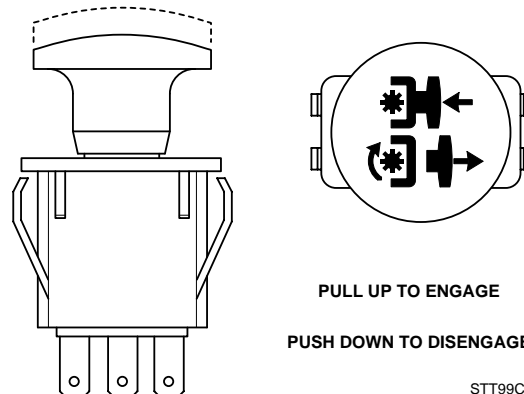

Figure 4-3 Cutter Engage Switch
2. Engage the deck drive by pulling out on the yellow switch, located on the instrument panel, (Figure 4-3) to the engage position.